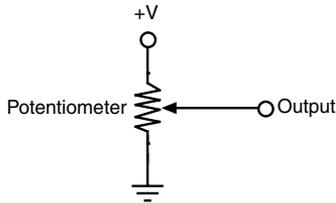

FIGURE 29.19 Potentiometer.
- A *potentiometer* forms a voltage divider when connected as shown in Fig. 29-19. The voltage varies from ground and +V. No amplification is necessary.